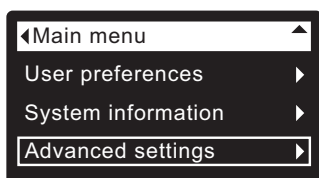

FIG. 40
2. From any of the rolling status screens, press the conditioner/refiner's SELECT (O) button to display the **Main menu**.
3. Press the conditioner/refiner's DOWN (▼) button to scroll through the menu options until **Advanced settings** is highlighted (See Figure 40).